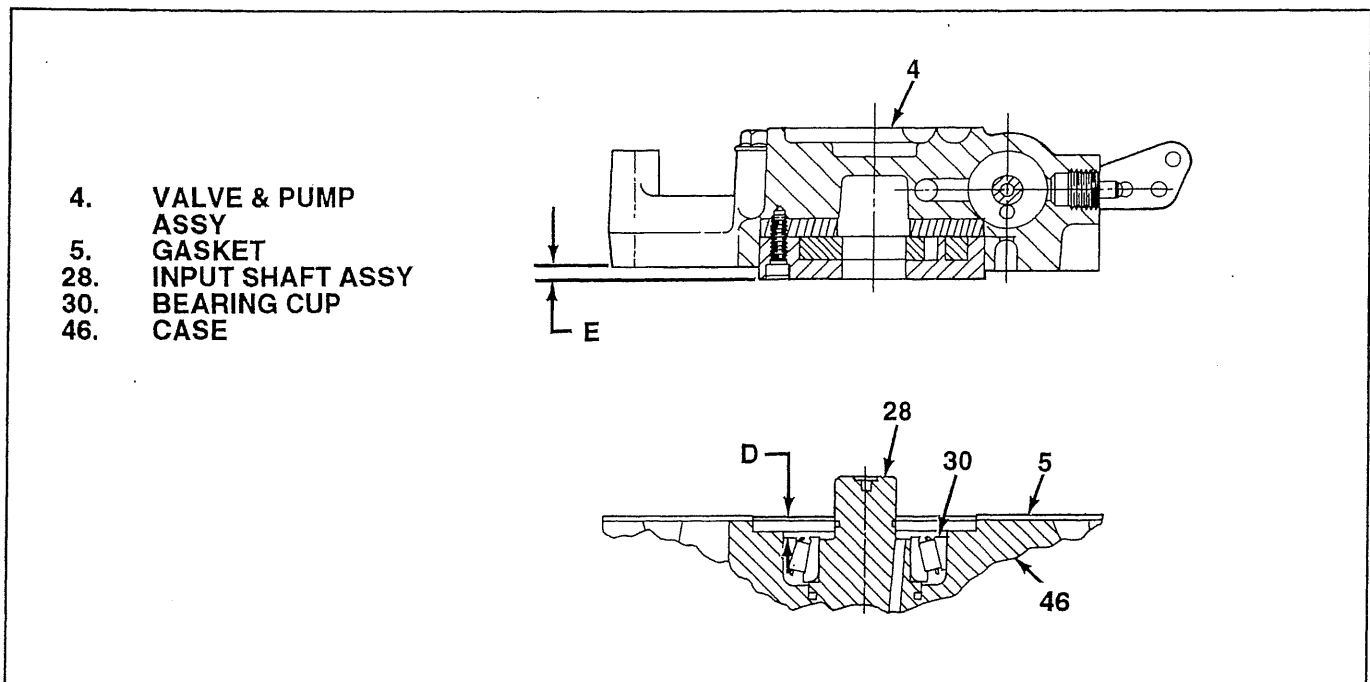

Figure 5-23. Determining Input Shaft Bearing Shim Thickness
d. Select shim(s) of thickness  $T_1 \pm 0.0010 \text{ in. } (\pm 0.025 \text{ mm})$  and install on face of bearing cup (30) at lay shaft. Install thinnest shim(s) down against bearing cup, thickest shim(s) up to bear against valve and pump assembly (4) when installed.
2. With gasket (5) in position on pump mounting face of case (46), determine thickness of shim(s) (6) to be used at input shaft bearing as follows:
a. Push down firmly on input shaft assembly (28) and bearing cup (30) (see figure 5-23) to make sure parts are seated.
b. Measure and record dimension D as shown in figure 5-23 [from top face of gasket (5) to top face of bearing cup (30)].
c. On valve and pump assembly (4), measure and record dimension E as shown in figure 5-23.
d. Calculate  $T_2$ , the thickness of shim(s) (6) required at input shaft bearing, as follows: